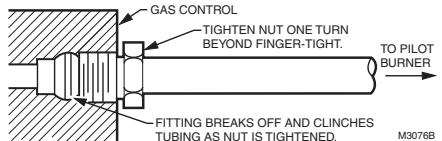

Fig. 7. Always use new compression fitting.
4. Push tubing into the pilot gas tapping on the outlet end of the control until it bottoms. While holding the tubing all the way in, slide the compression fitting into place and engage threads—turn until finger-tight. Then tighten one more turn with wrench. Do not overtighten. Refer to Fig. 7.